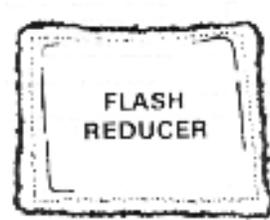

Fig 2-29
- d. **Propelling charge M4A1.** Propelling charge M4A1 is identical to the M4A2, except that it does not contain a flash reducer and the base igniter contains black powder. The M2 flash reducer (Figure 2-29) may be used with this charge and is a separate item of issue.
The M2 flash reducer consists of a 4-inch square, red cotton cloth bag containing black powder and potassium nitrate (Figure 2-29). The M2 flash reducer which is a separate item of issue, may be used with charges M4, M4A1, or M4A2 if additional Fig. 2-29 flash reduction is desired. In preparing a white bag M2 flash M4 and M4A1 propelling charge for firing, one flash reducer. reducer is added at the forward end of the base charge and at the forward end of each increment used. The flash reducer pads serve to limit muzzle flash and blast overpressure.